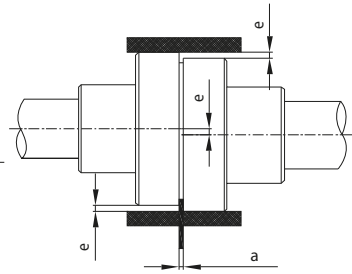

Figure 4. Adjustment of the elastic coupling
- A metal part (steel ruler or gauge, etc.) and a precise caliper are required to perform coupling adjustment (special equipment should be used for very fine and precise adjustment). Axial run-out of the coupling (see figure 4) should not exceed 0.1 mm.